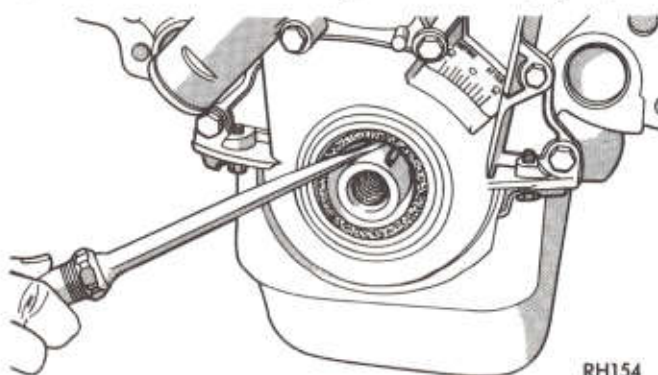

Fig. 28—Removing Oil Seal
- (7) Using a suitable tool behind the lips of the oil seal pry outward, being careful not to damage the crankshaft seal surface of cover. (Fig. 28).